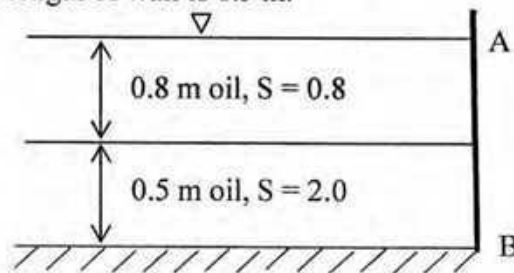

Figure 4
- 4 a. Calculate the total hydrostatic pressure exerted upon the vertical wall AB shown in Figure 4. Assume length of wall is 0.5 m. 6